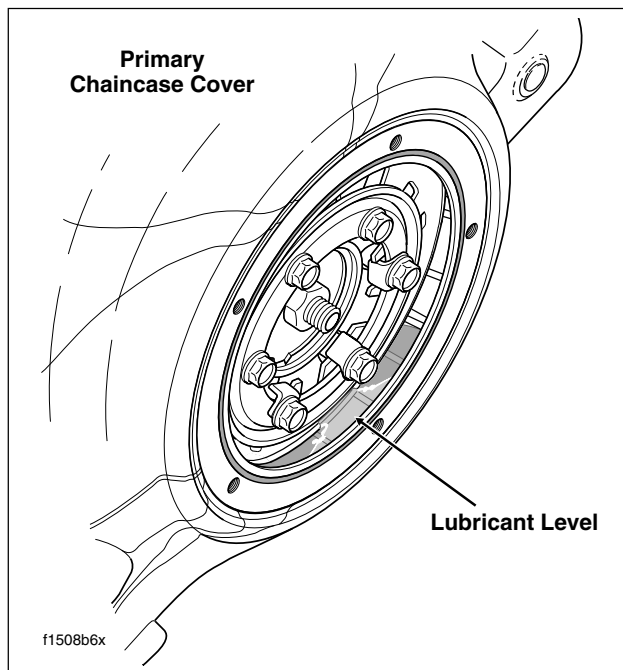

Figure 1-5. Fill Primary Chaincase With Lubricant
4. Pour 32 ounces (946 ml) of Harley-Davidson PRIMARY CHAINCASE LUBRICANT through the clutch inspection cover opening, Part No. 99887-84 (quart) or Part No. 99886-84 (gallon). See Figure 1-5.